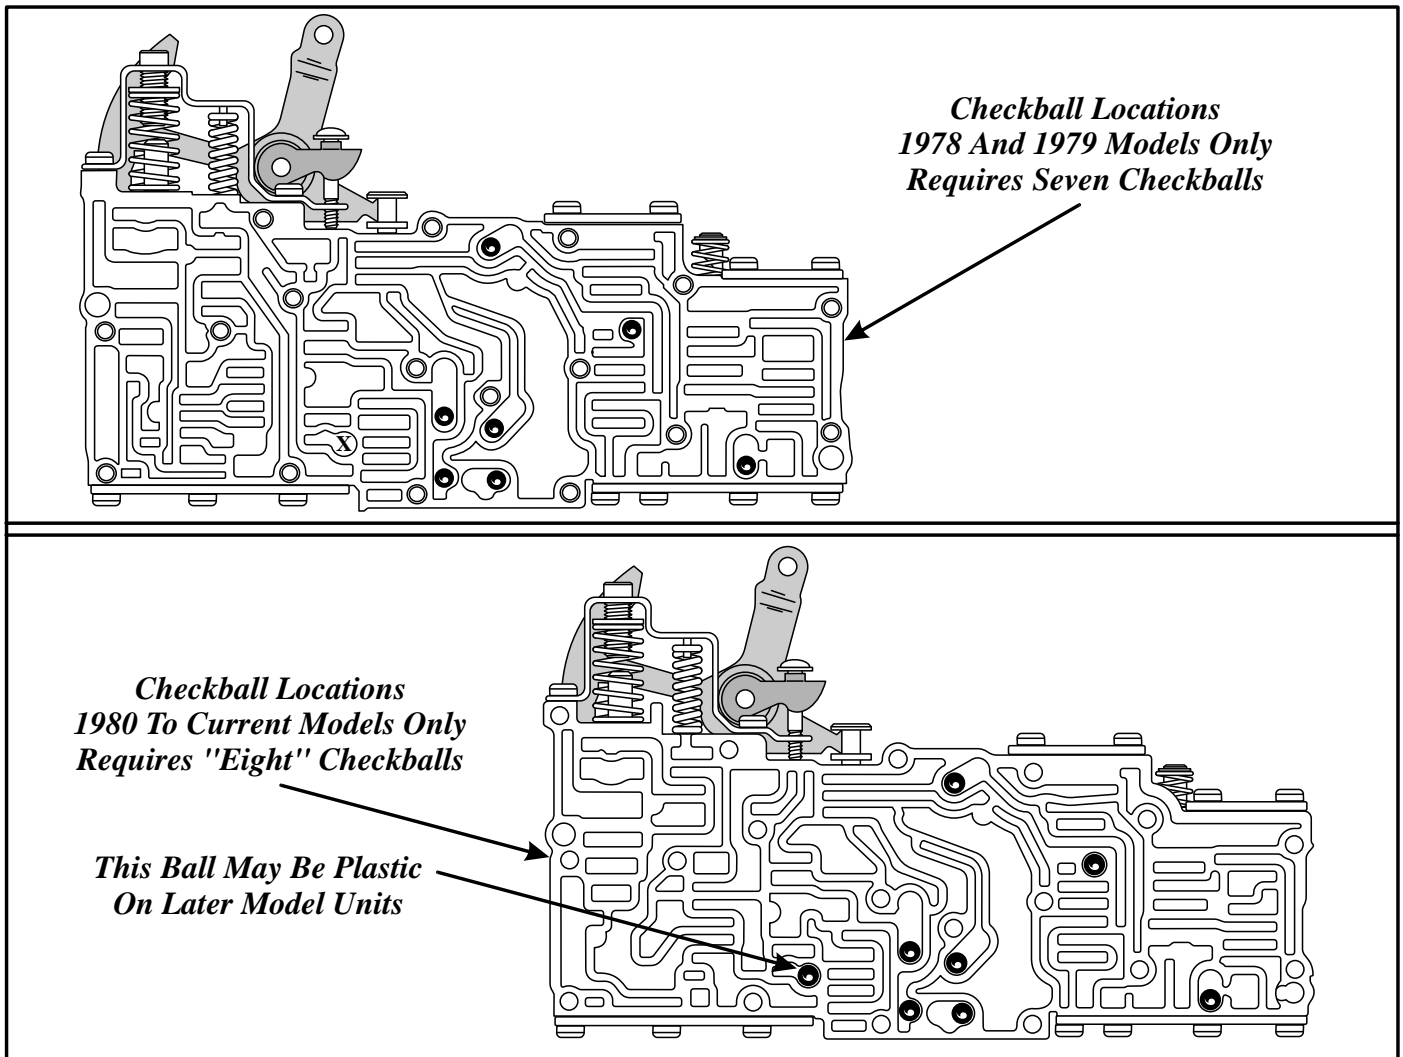

Figure 104
15. Install the checkballs in their proper locations, depending on the model that you are working on, as shown in Figure 104.